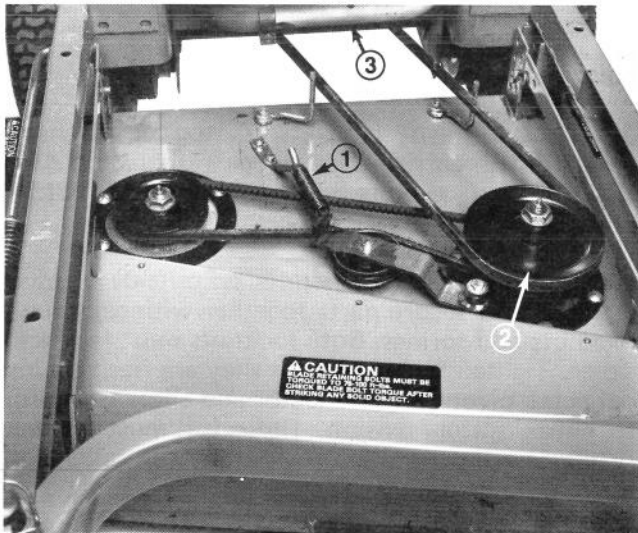

Figure 17
3. Unhook idler arm spring to relieve deck belt tension (Fig. 17) and remove worn belt from pulleys.
4. Install new belt around spindle pulleys and idler pulley (Fig. 17).
5. Rehook idler arm spring (Fig. 17).
6. Install belt to drive and clutch pulley (Fig. 17).